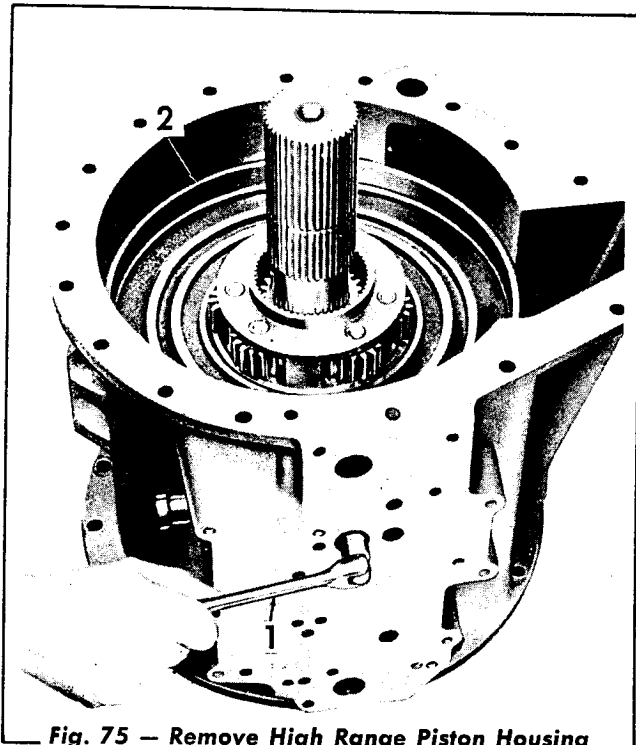

Fig. 75 — Remove High Range Piston Housing Retainer Capscrew
- 1. Internal Splined Clutch Plate (2)
- 2. External Splined Clutch Plate (2)
13. Using a wrench (Fig. 75), remove the high range piston housing retainer capscrew. Remove the high range piston and housing assembly.